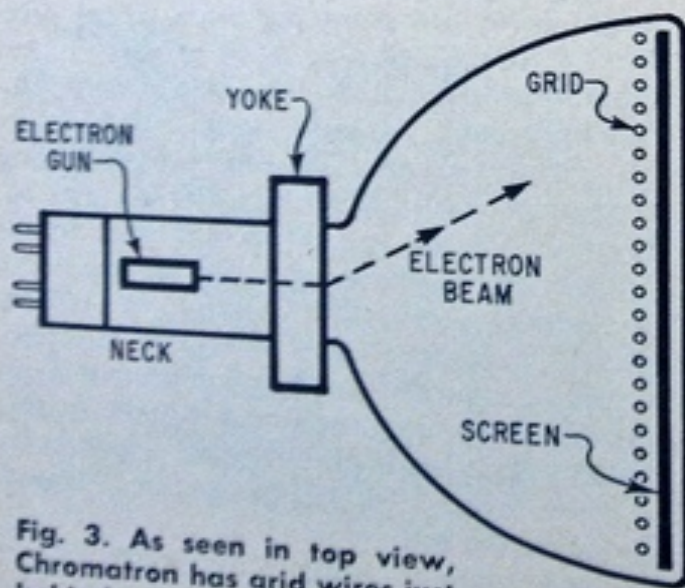

Fig. 3. As seen in top view, Chromatron has grid wires just behind viewing screen. Grid is shown greatly magnified.
**The Color Picture.** Let's see how signals are converted back into light of the correct color at the receiving end. In Fig. 3 is an overall view of a Chromatron tube. Housed in the narrow neck of the tube is an electron gun. Its hot cathode boils off electrons which travel as a beam in the direction of the yoke. Purpose of the yoke is to deflect the beam over the entire surface of the screen. Based on magnetic push-pull action, the yoke moves the beam over a familiar path: the same one your eyes now traces over the printed page; from left to right and top to bottom. The screen, therefore, is completely scanned. Occurring 60 times per second, the eye sees the screen uniformly filled with light. (Identical scanning action is also occurring at the studio camera. Camera and receiver beams are locked together by synchronizing signals transmitted by the station.) As the beam travels away from the yoke, it passes through the grid of fine wires mentioned earlier, then strikes the screen. Chemical phosphors deposited over the screen surface glow with